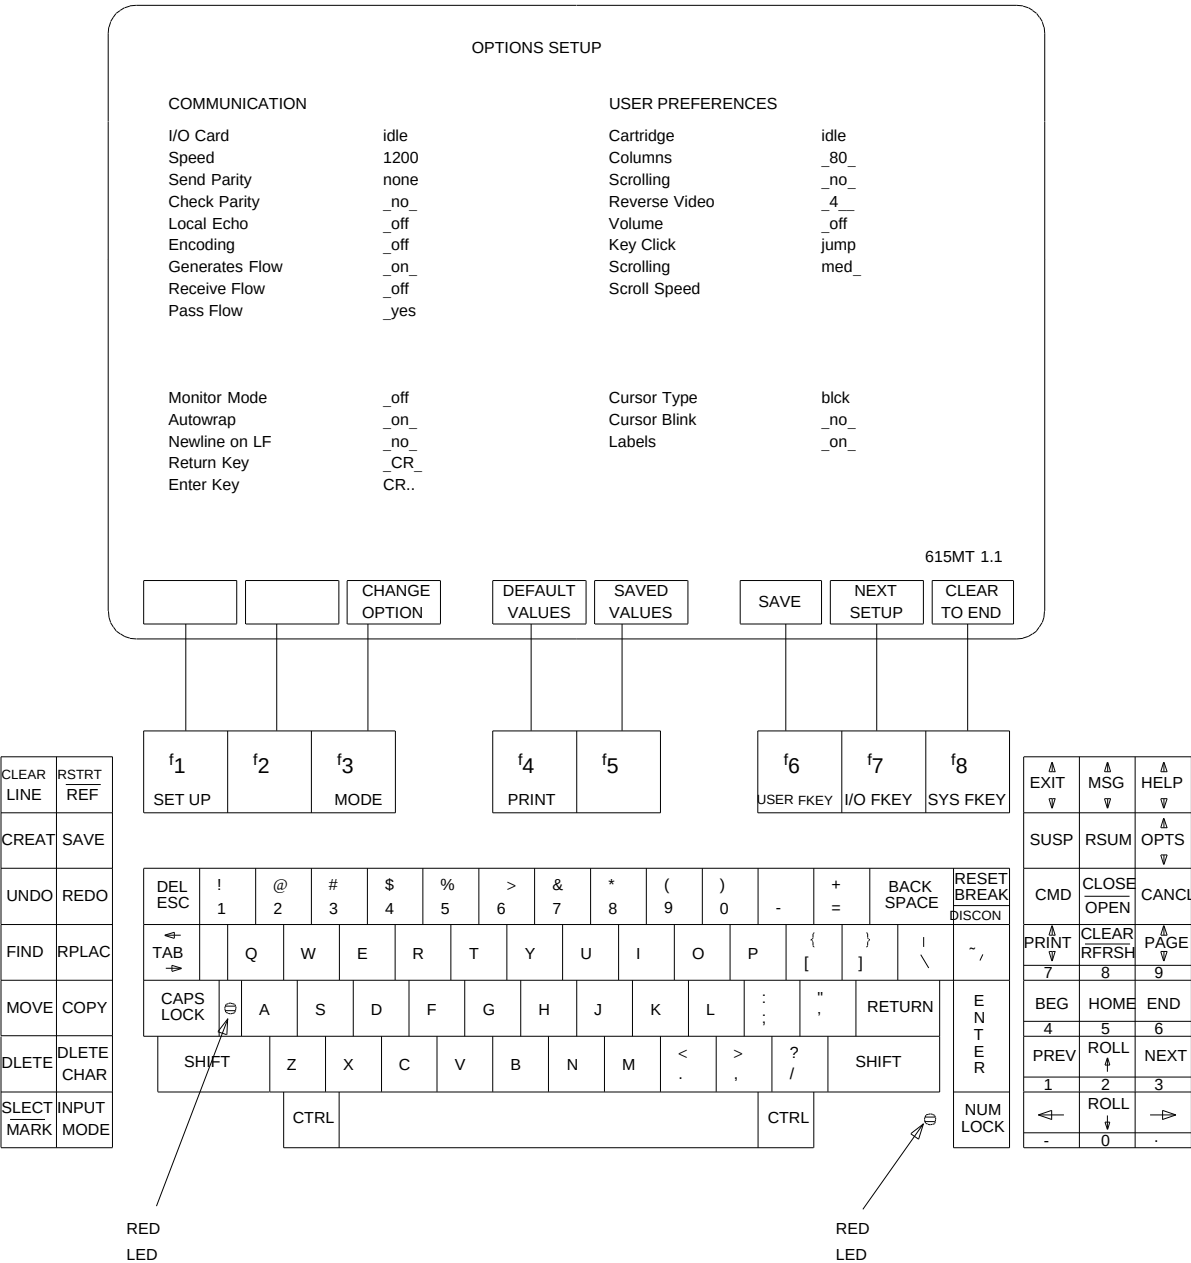

Figure 5-5. 615 Terminal G3 Management Terminal Keyboard and Options Screen with Default Values
1. Press **CTRL** and function key **SET UP f1**. Verify that the terminal set up screen is shown with default values (Figure 5-5).
Function keys are located at the top of the G3 Management Terminal keyboard (Figure 5-5). Windows are the lighted rectangles located across the bottom of the screen that correspond to the function keys located across the top of the keyboard.